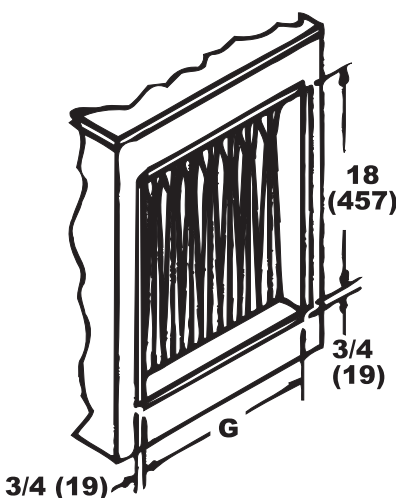

Figure 18. Ductwork Connection Dimensions (Refer to Table 12)
- **Connection dimensions:** connection dimensions (inches (mm)) are shown in Figure 18 and listed in Table 12.
*See Figure 18.